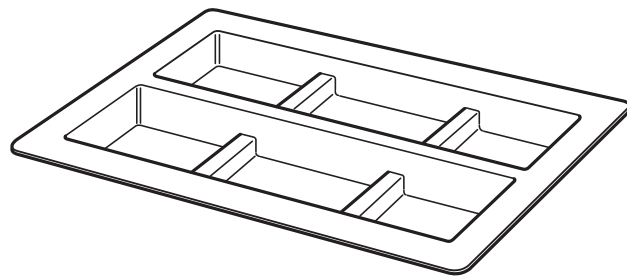

Fig. 3.2
- (d) A vacuum formed tray shown in Fig. 3.2 is to fit inside the top section of the box. Sketch a suitable former for making the tray, showing all details. [4]